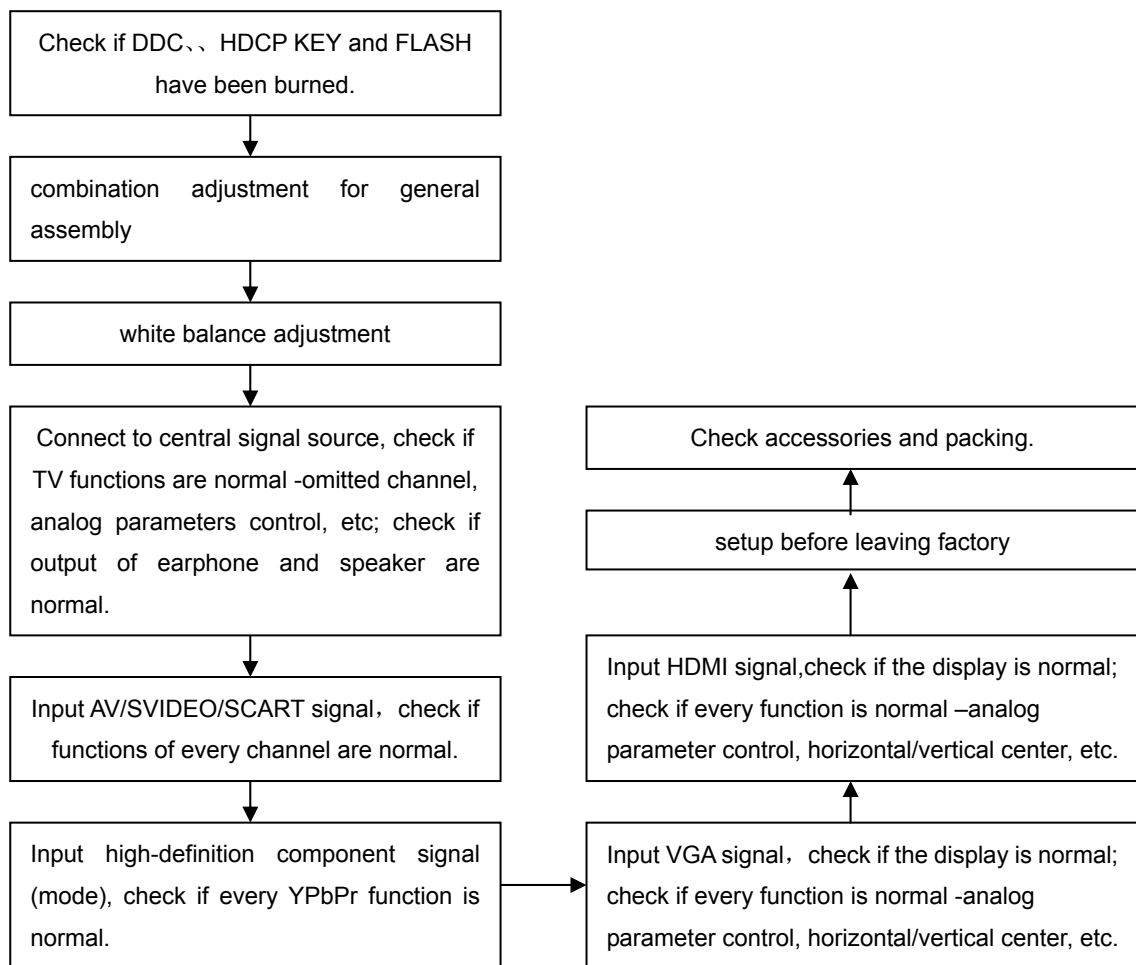

Fig.1 Adjustment flow chart
1.2 Adjustment flow chart as Fig.1